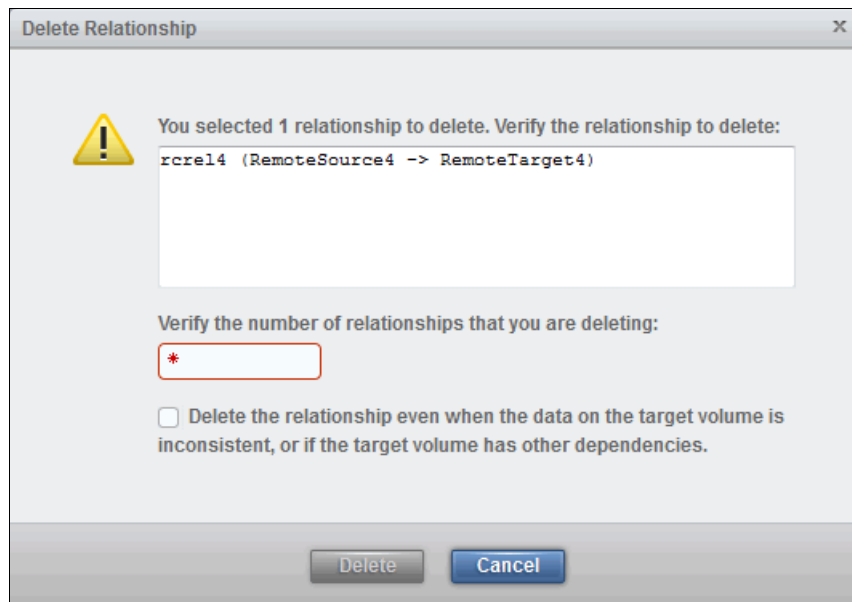

Figure 10-119 Confirm the relationship deletion
2. You must confirm this deletion by verifying the number of relationships to be deleted, as shown in Figure 10-119. Click **Delete** to proceed.